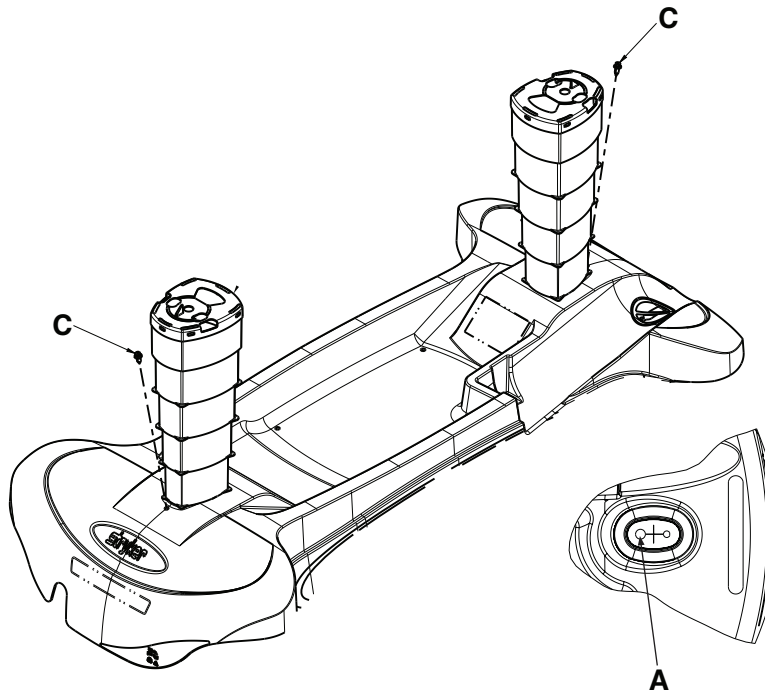

Figure 4 – Raising and lowering the hood
4. Using a #2 Phillips screwdriver, remove the scrulok assemblies (C) that secure the hood to the hood retainer on the outside of the head end and foot end jacks, if applicable (Figure 4).
5. Using a #2 Phillips screwdriver, remove the scrulok assembly (A) that secures the hood to the hood retainer on both ends of the product on the outside edge of the head end and foot end jacks, if applicable (Figure 4). Remove and discard the hood.
8. Replace the bellows (removed in step 6) over the jack shaft on both ends of the product. Fit the bellows through the hole in the hood to secure the bellows to the hood. Make sure that the large hole (A) faces toward the center of the hood on both ends.